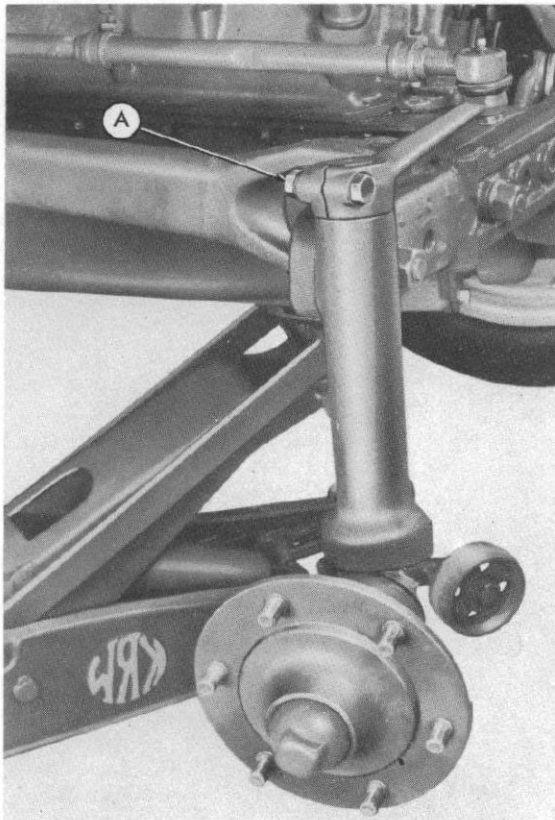

Fig. 6
- Step 1—Jack up the left front wheel and remove the wheel from the hub as shown in Figure 6.
- Step 2—Remove bolt (A-Figure 6) from the axle end of the steering arm.